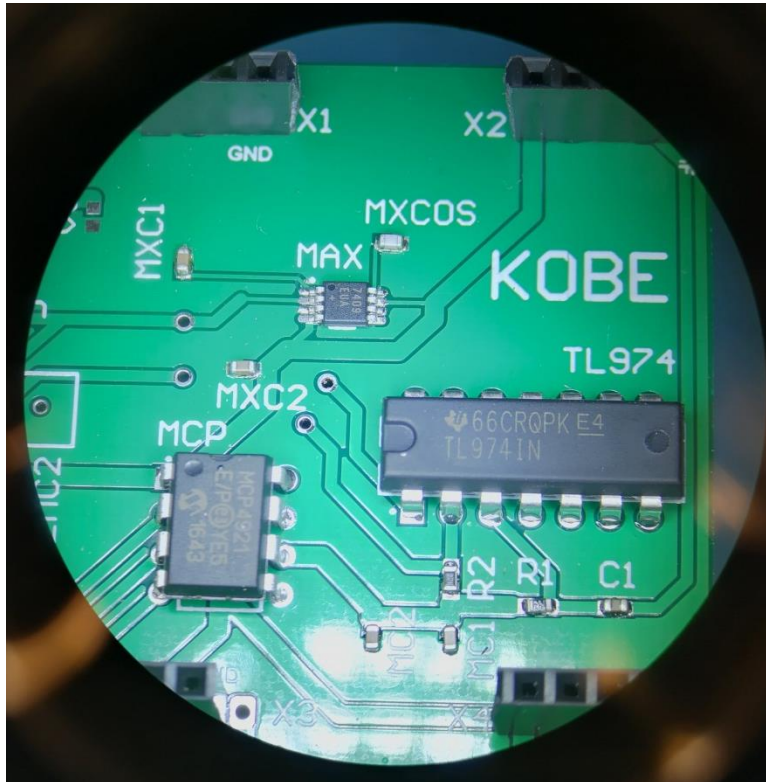

Fig 6: Close-up of Baseband PCB Featuring Through-hole and SMD Soldering
**Add appropriate silk labels to all components to facilitate ease of assembly. Try** to use components with the largest foot prints to make soldering easier and prevent solder bridges. In Figure 6, the Maxim LPF is the smallest IC our team used and was much more difficult to solder than the through-hole DAC and op-amp beside it.